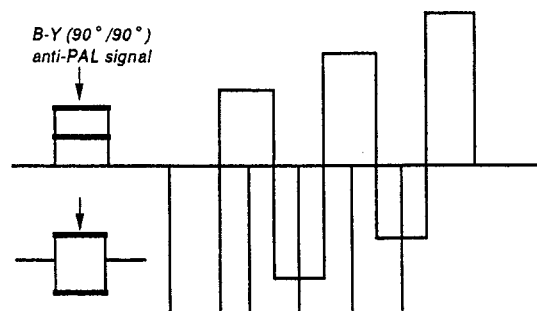

Fig. 22
- 2) Adjust **[CHROMA NTSC 443 ACC OFF]** in the same manner as 9-4). (Fig. 22)
- 4) Adjust **B-Y PHASE PAL** so that the B-Y anti-PAL signal waveform is 0. (Fig. 22)